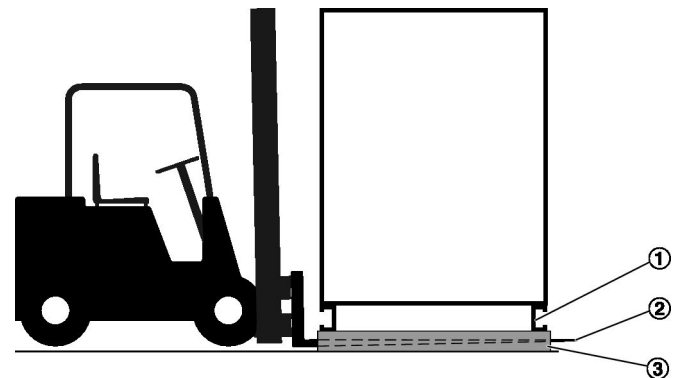

Fig. 4: Carrying load with a forklift
1. ▶ Drive the forklift forward until the forks ( Fig. 4 /3 ) are fully between the square edge timber sections ( Fig. 4 /2 ) and protrude from underneath the base frame ( Fig. 4 /1 ) on the opposite side.